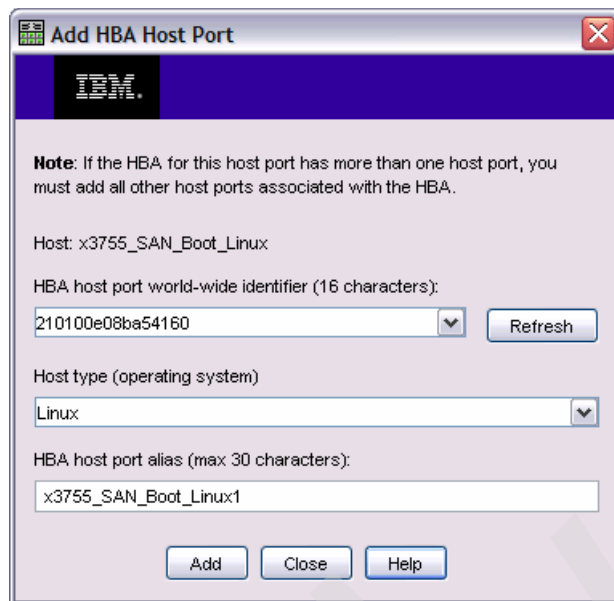

Figure 26-25 Add HBA Host Port
2. This launches the Add HBA Host Port window, as shown in Figure 26-25.